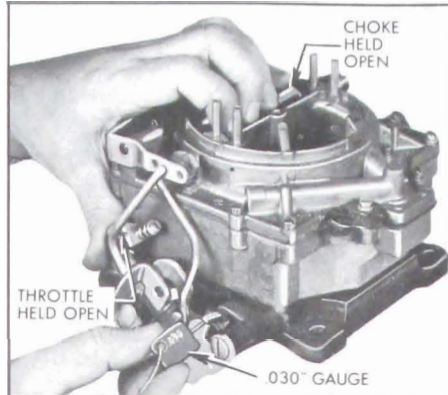

Figure 3-58—Checking Secondary Contour Adjustment
7. Secondary Contour Adjustment. Fully open choke valve so that fast idle cam falls to its lowest position. Then open throttle so that secondary lock-out tang follows contour portion of fast idle cam. With choke held wide open, check clearance between lock-out tang and contour portion of cam using .030" gauge. See Figure 3-58.